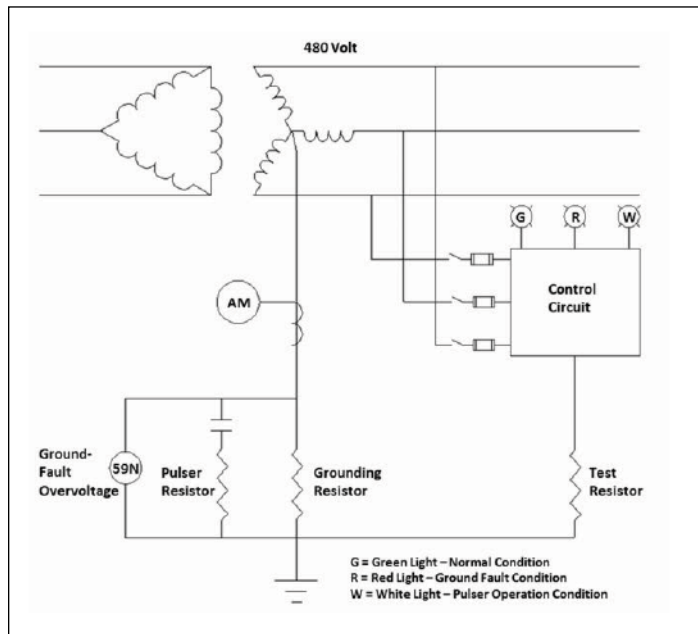

Figure 1. Pulse detect method schematic
**Application considerations:** This feature is designed to be used specifically on pulsed HRG systems that generate a pulse on the ground fault current. In traditional systems, that pulse is only detected at the feeder level, so manual downstream tracing with an ammeter is still required (or the zero-sequence CT method may be used). C445 provides unit level detection down to 1 A on pulsed systems without use of a dedicated module/zero-sequence CT. Zero-sequence CTs are sized to allow all three motor phases to pass through and therefore add significant space in the motor control center (MCC) bucket. This feature therefore offers significant footprint and cost reduction, see **Figure 1**.